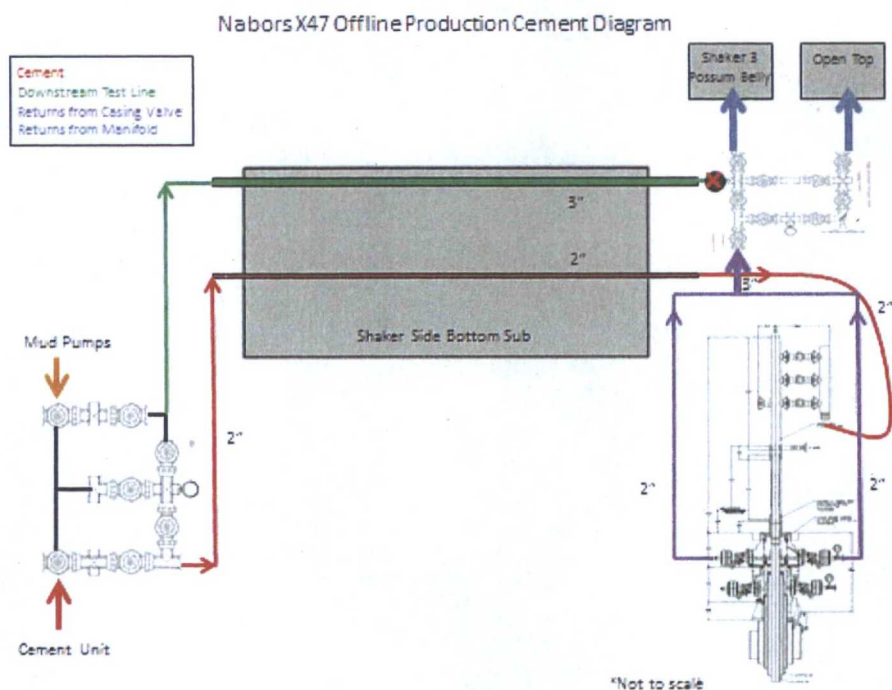

Figure 1
6. R/U cementers per Figure 1 (red and green lines)